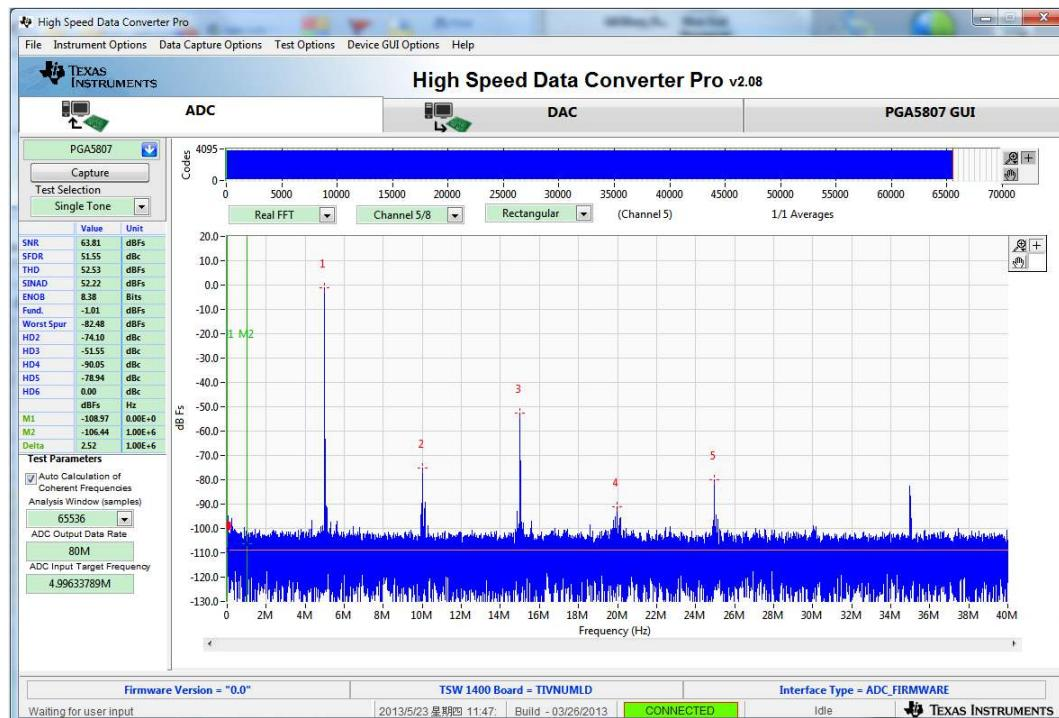

Figure 45. PGA5807A + ADS5296A SNR, THD, Gain Test Capture 1
- Click on the *ADC* tab and press *Capture* to see result similar to Figure 45. Take note of the *Fund.* value in the table to the left. In a similar manner to that described in Section 4.3, the input signal amplitude to the PGA5807A should be adjusted and a re-capture done iteratively until the *Fund.* value is approximately -1.0 dBFS. As -1.0 dBFS is the ADC level at which datasheet specifications are set, the *SNR* and *THD* of the signal chain can be taken from the table to left at this value of *Fund.*